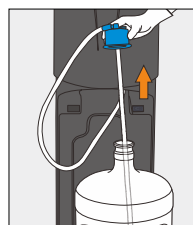
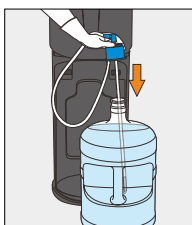

Figure 18
Figure 19
6. Remove bottle adaptor from the empty bottle (Figure 18) and place directly into the top of the new, full bottle (Figure 19)